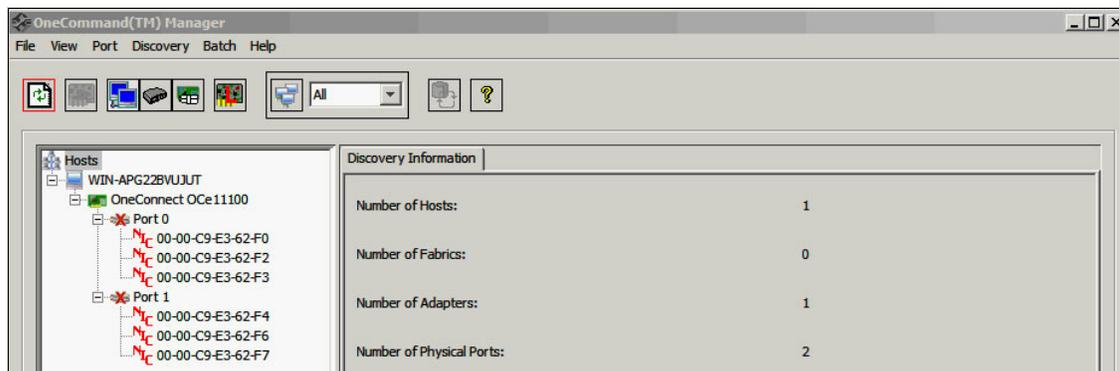

Figure 10-102 OneCommand Manager window
4. After OneCommand Manager discovers the hosts and adapters, if you see the ports on the **Discover Information** tab in the OneCommand Manager window (Figure 10-102), click the adapter that you want update. For this example, we click **OneConnectOCe11100**.